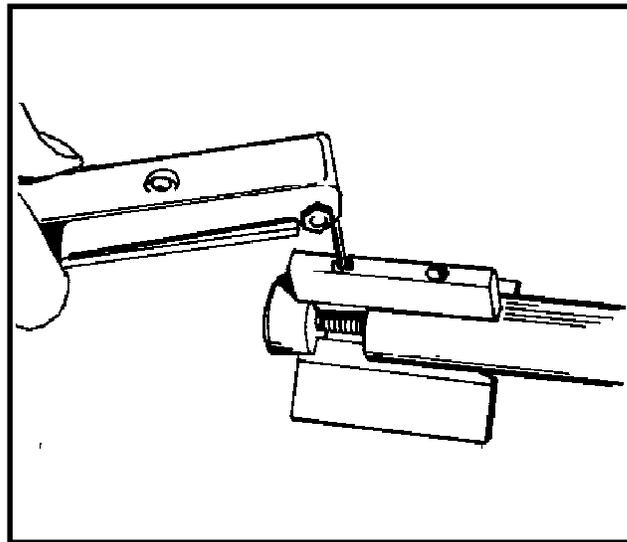

Figure 6
5. Place the extensions on the mandrel legs. Engage and tighten the captivated screws with the provided hex key set (Figure 6).